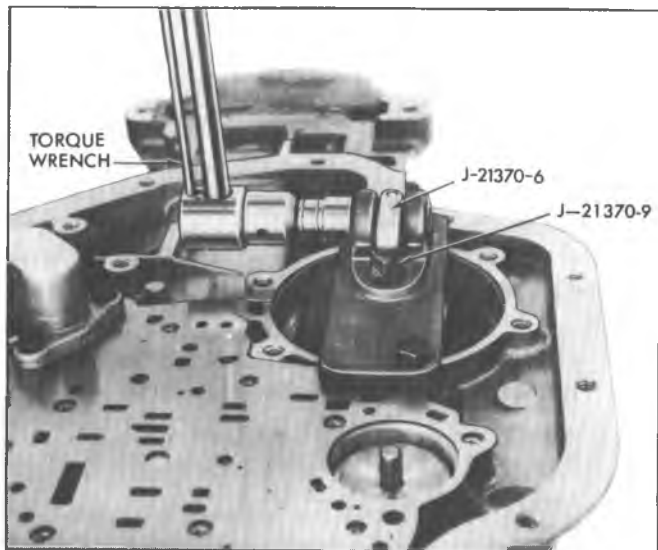

Fig. 2B-Checking Rear Band Apply Pin - Model "CL"
- a. Attach band apply pin selection gauge (J-21370-9 and J-21370-6), to transmission case (lever pivot pin to rear) with rear servo cover attaching screws (fig. 2B).
- c. Apply 25 foot-pounds torque to the lever on Tool J-21370-6 (fig. 2B). Selection of the proper rear band apply pin is determined by the relation of the flat on Tool J-21370-9 to the flat machined area around the